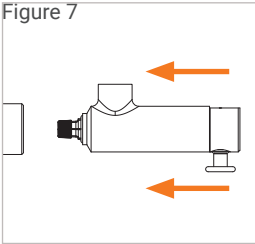

Figure 8
- ▶ With the valve button (Pos. 4) pressed, insert the connector straight into the test piece until the front seal (Pos. 7) touches the test piece (*Figure 8*). Doing so will prevent any damage to the front seal caused by any sharp edges on the test piece and ensure a correct connection.